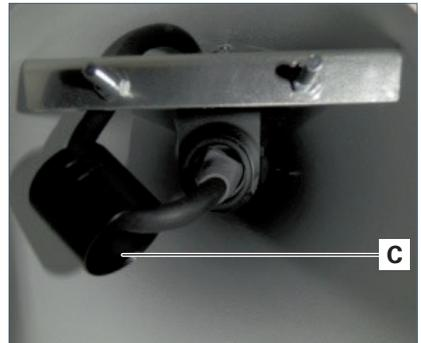

Fig. 2: Remove cover cap.
4. Pull off the black cover cap **C**, see Fig. 2.